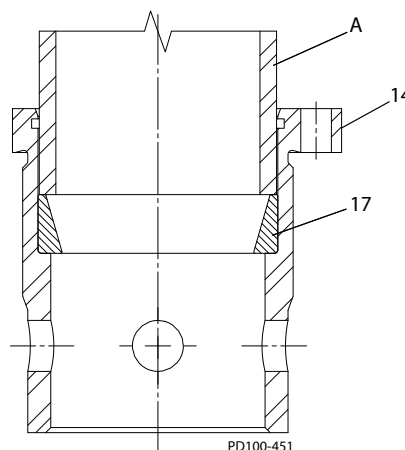

Figure 46 - Press Rear Bearing Cup
1. Press the rear bearing cup (Figure 46, item 17) into the bearing case (item 14) using a pusher tool (item A).